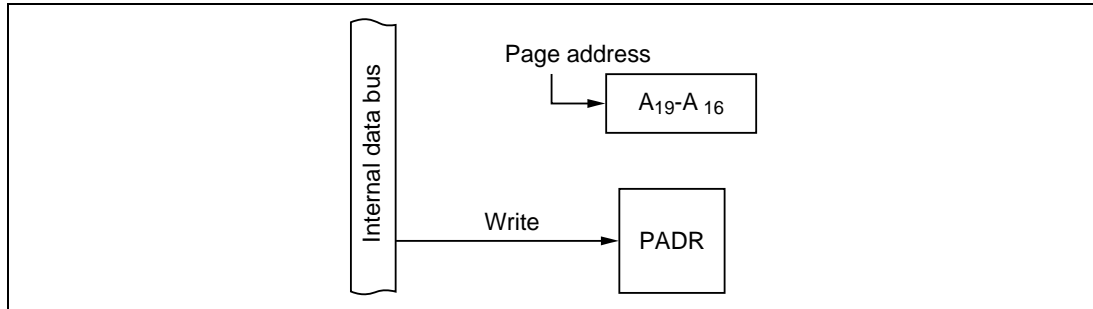

Figure 10-69 Page Address Bus (Modes 3 to 5)
(7) Page Address Bus (PA_3 to PA_0 ; Modes 3 to 5): Figure 10-69 shows a block diagram illustrating the page-address-bus function. Table 10-52 indicates register read/write data. When PA_3 to PA_0 are used for A_{19} to A_{16} output, values written in the port A data register (PADR) have no effect. When read, PADR returns an undetermined value.